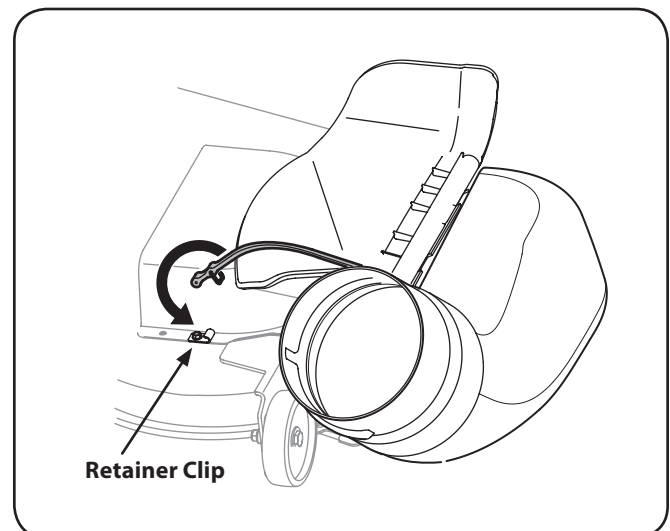

Figure 4-22
6. Attach the retainer strap on the discharge chute to the retainer clip on the deck. Refer to Fig. 4-22.
IMPORTANT: If the retainer clip is not present on the mowing deck, on some units, one has been included with hardware pack 689-00094. Attach the retainer hook (16606) with a self-tapping screw (710-0599), from hardware pack 689-00094 in the position noted in Fig. 4-22.